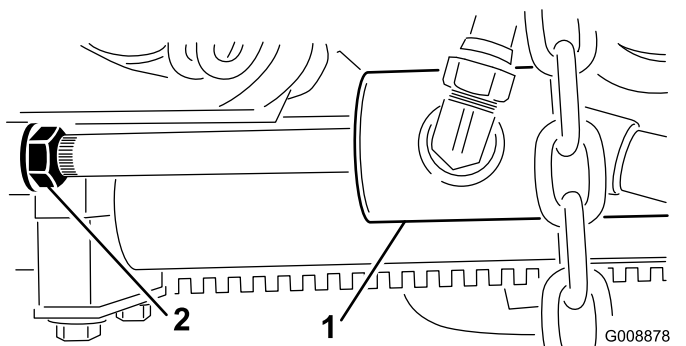

Figure 27
2. Loosen the jam nut on the lift-cylinder rod (Figure 27).